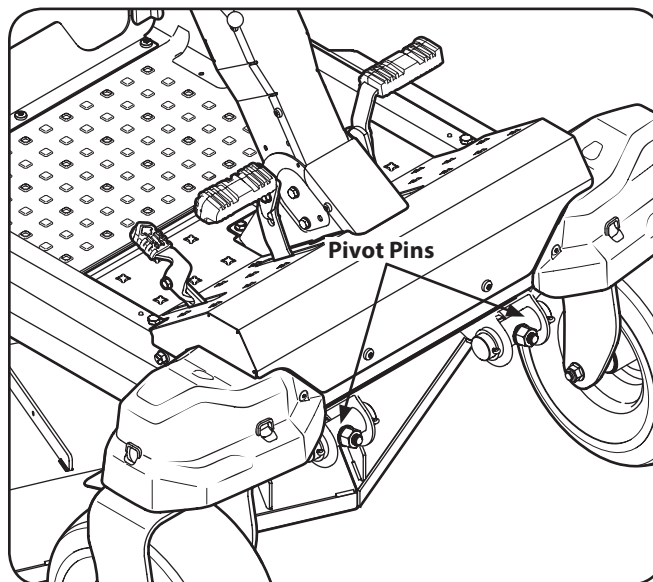

Figure 3-7
5. Using a wrench, raise the front of deck by loosening the lock nuts to the front of the pivot pin and then tighten the jam nuts on the back of the pivot pin to raise the front of the deck and secure in place. See Figure 3-7.
6. Using a wrench, lower the front of deck by loosening the jam nuts on the back of the pivot pin and then tighten the lock nut on the front of the pivot pin to lower the front of the deck and secure in place. See Figure 3-7.